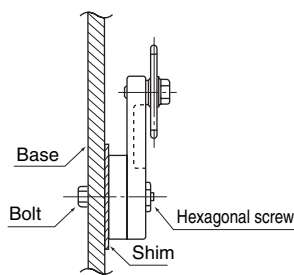

Fig. 4 Tightening the tensioner
- 6) Push in on the chain with the tensioner and temporarily tighten the tensioner to the base with a bolt. (Fig. 4) Then tighten the hexagonal screw and anchor so that the swing angle is about 15°.